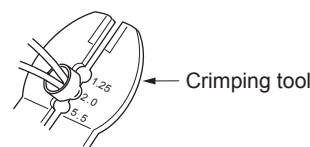

Fig. 1-1-6
- d) As shown in Fig. 1-1-6, use the crimping tool to crimp the metal sleeve at the center position. Be sure to crimp fully to the complete closure of the tool.